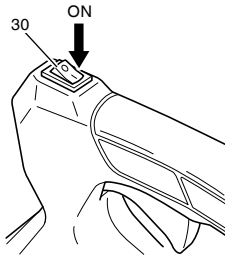

Fig. 14
1. Check the switch (30) to ON position. (Fig. 14)